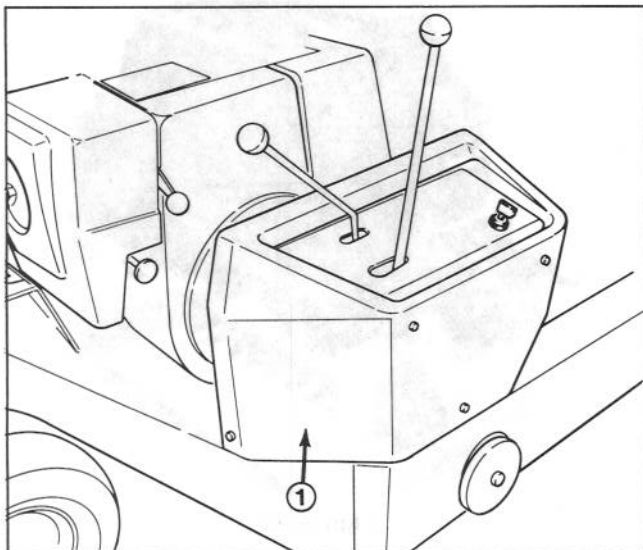

Figure 51
1. Remove control panel cover (Fig. 51).